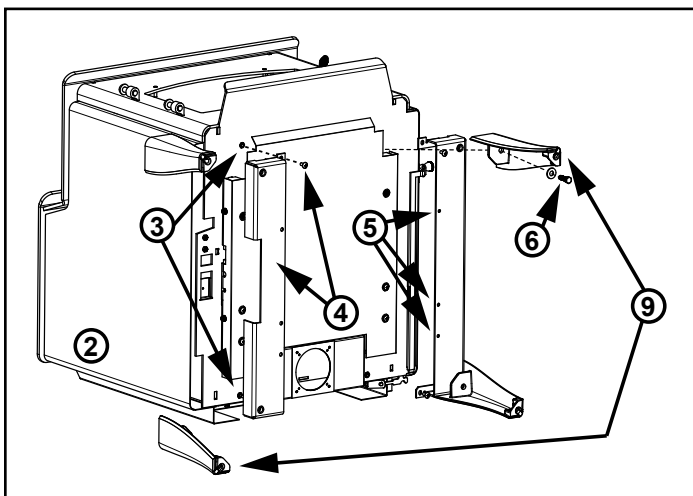

Figure 25.1
3. Remove four screws from bottom of appliance (**Figure 25.1**).
NOTE: There is a right and a left of the leg brackets (**Figure 25.1**).
5. Install six screws to the bottom of the leg brackets (**Figure 25.1**).
NOTE: Legs with leveling bolts need to be on opposite sides of the appliance - one in the front and one in the back (**Figure 25.1**)